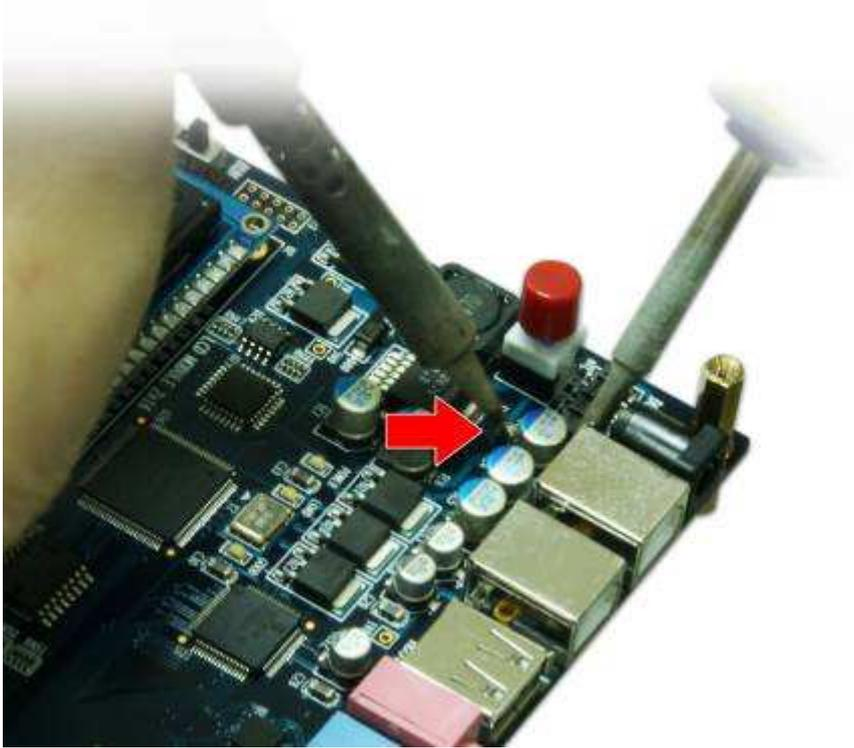

Figure 7
- Heat up the two joints of the TC3 capacitor for 1 ~ 2 minutes with the two soldering irons as shown in Figure 7.